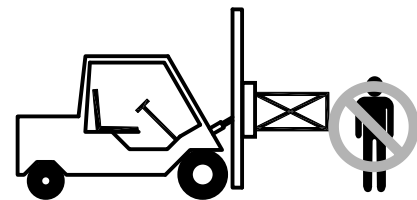

Figure 3-3
- Never stand in front of or beside an attachment that is being operated. Never allow another person to approach an attachment that is being operated. (Figure 3-3)